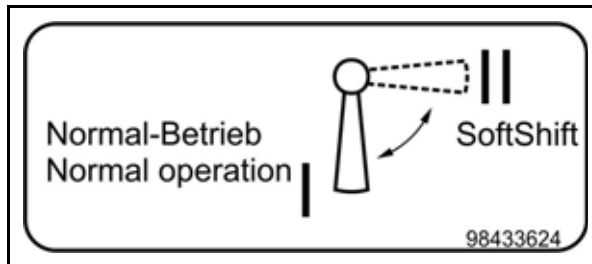

Fig. 635 Pump kit sign
- Move the ball valve (1) (**Fig. 635**) into the “SoftShift” (DAN) position in order to enable SoftShift function b).